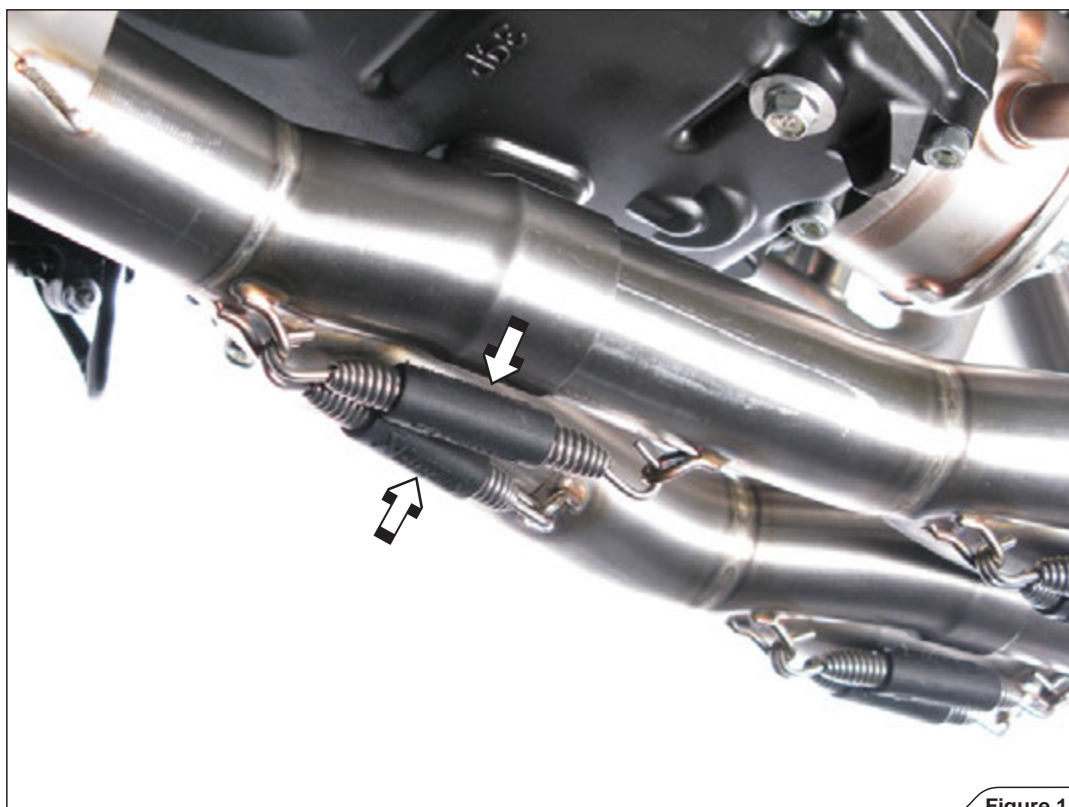

Figure 14
6. **For Akrapovič Racing only:** slide the link pipe onto the collectors and attach the springs (**Figure 14**).